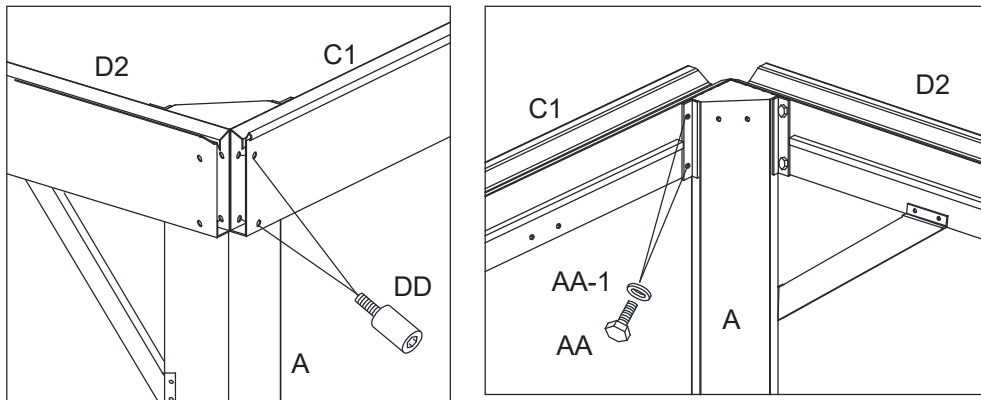
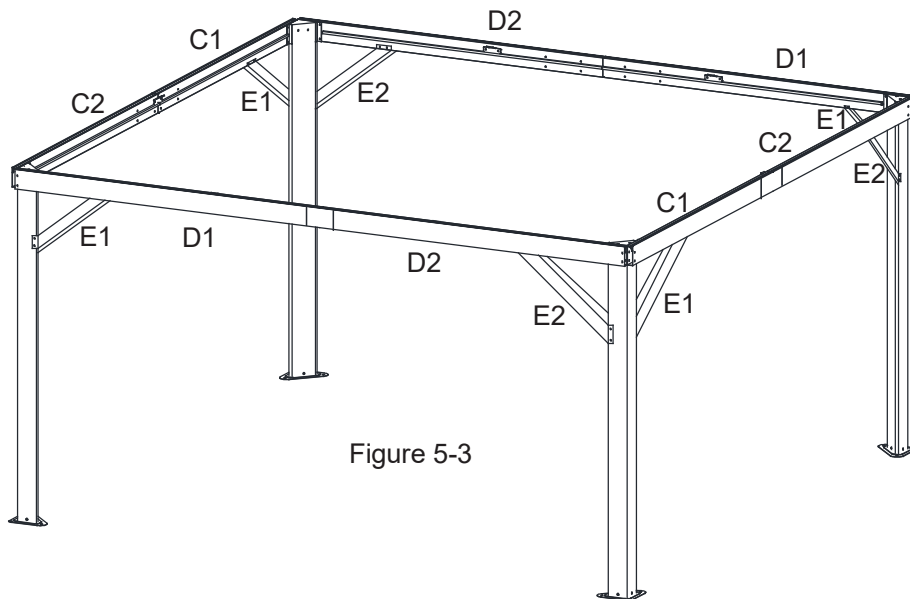

Figure 5-1
Figure 5-3
Tighten all Bolts. See Figure 5-1 and Figure 5-3.
5.2. Attach Support Bars (E1/E2) to Corner Post (A) and to Lintels (C1/C2) with Bolts (AA) and Steel washer (AA-1). See Figure 5-2.5.3. Repeat for all Corner Posts and Lintels. Tighten All Bolts. See Figure 5-3.